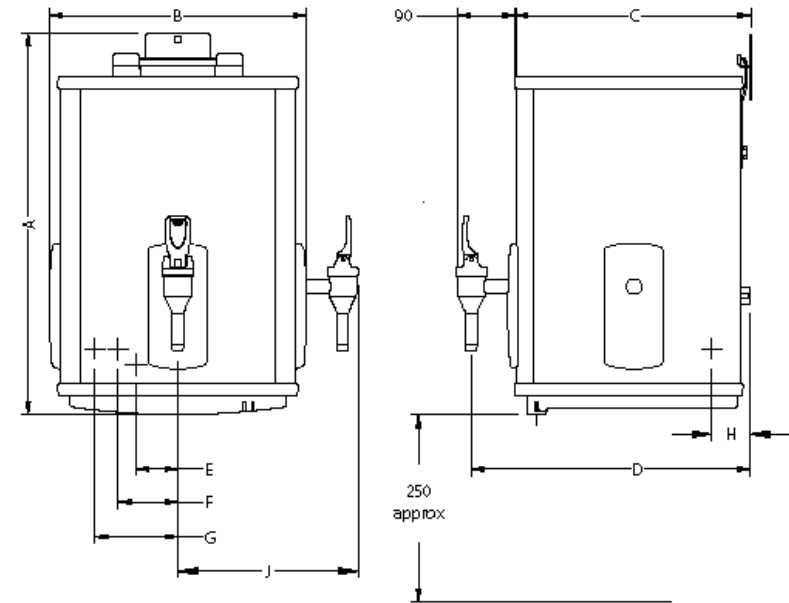

Fig.2
- 2.2 Fig.2 details the outside dimensions of the Supreme unit. A template is supplied to aid positioning the heater, select hole locations according to model size. It is recommended that the unit is positioned above a draining board. If this is not possible, consideration should be given to any spillages that may occur under the heater. A drip tray is available as an accessory (Heatrae Sadia Code No. 95 970 123). The heater should be positioned at a height to suit the items being filled (flasks, pans, cups etc.). This is likely to position the base of the unit approximately 250mm above the work surface.